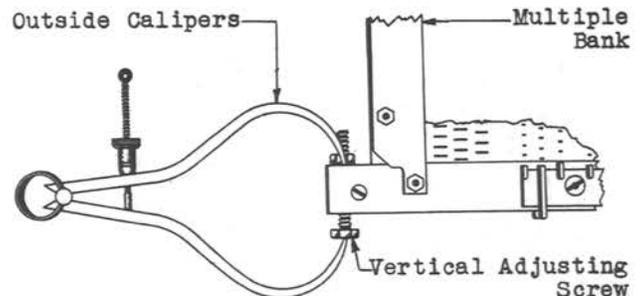

Fig. 12 - Method of Using Outside Calipers In Obtaining The Position of Vertical Adjusting Screws
3.23 After removing the bank from the frame carry it to a table or work bench and then caliper the distance from the bottom of the vertical adjusting screws at each end to the top of the bank frame as shown in Fig. 12. Set the vertical